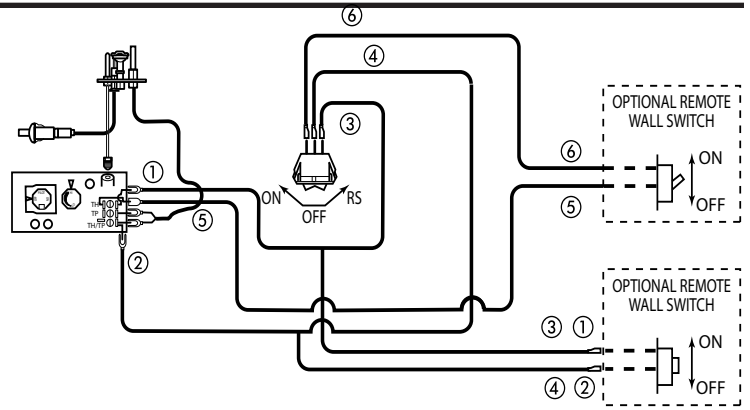

Figure 44 - Wiring Diagram for Wall Switch
A remote wall switch and up to fifteen (15) feet of 18 Ga. wire may be used with this appliance. Attach the wall switch in a junction box at the desired location on the wall. *Figure 44* Do not extend beyond the wall switch wire length provided.